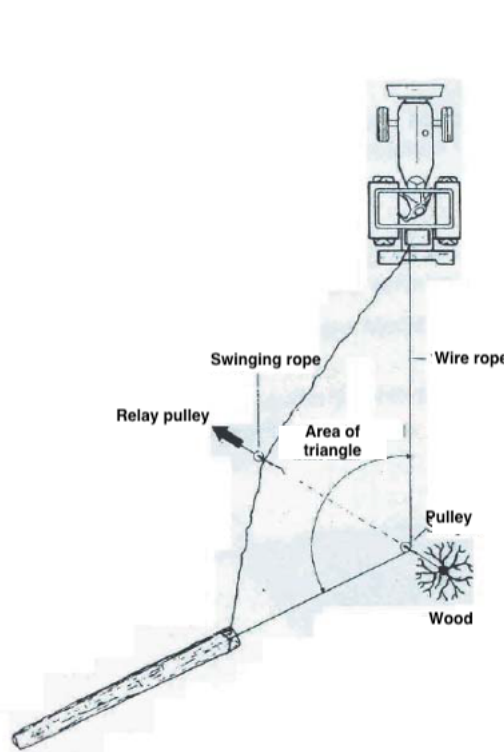

Figure 7
35. During the tow, it is forbidden to stand between the load and the winch as well as in the danger area between the winch, relay pulley and load. (See Figure 7).